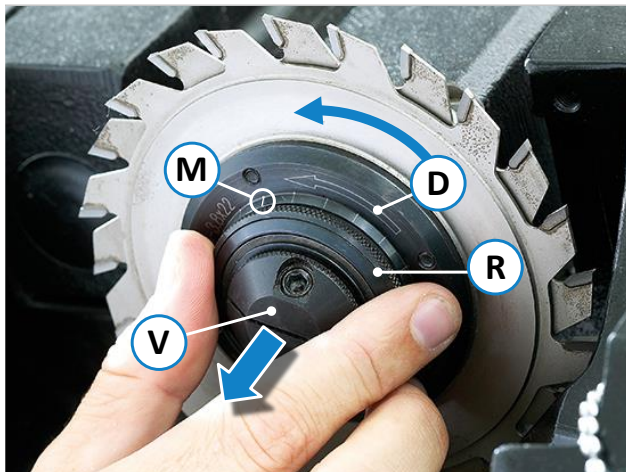

Figure 71: Quickstep setting mechanism for scoring saw blade
- Insert the saw blades into the bolts on the flanges, observing the direction of rotation (**D**), see ⇒ Figure 71.